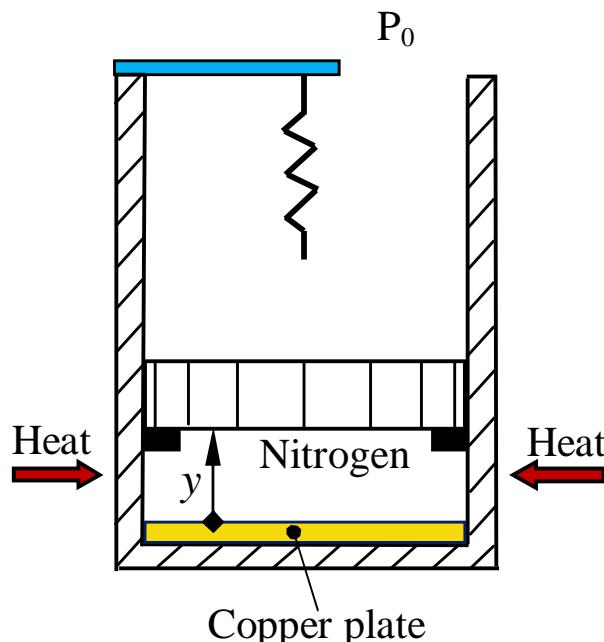

Figure 2: Piston-cylinder arrangement for problem 3
3. A frictionless piston-cylinder and linear-spring assembly containing nitrogen gas is shown in Figure 2. The mass of the nitrogen gas is $m_N = 0.12 \text{ kg}$. A copper plate uniformly covers the bottom of the cylinder, and this copper plate is always in **thermal equilibrium** with the nitrogen gas. The distance from the top surface of the copper plate to the bottom surface of the piston is denoted as y . At the initial state (State 1), the piston rests on the stops, with $y_1 = 0.5 \text{ m}$ and the pressure of the nitrogen gas being $P_1 = 110 \text{ kPa}$. Then heat is transferred to the nitrogen gas and copper from the outside. At the exact moment when the piston just begins to leave the stops, the state of the nitrogen gas is referred to as State 2. At the exact moment when the piston just begins to touch the spring, the state of the nitrogen gas is referred to as State 3. At State 3, $y_3 = 1 \text{ m}$. The nitrogen gas and copper continue to receive heat from the outside until the final state (State 4) is reached, when the pressure of the nitrogen gas becomes $P_4 = 220 \text{ kPa}$. From the initial to the final states, the total heat received by the nitrogen gas plus copper from the surroundings is $Q_4 = 320 \text{ kJ}$. The inner cross-sectional area of the cylinder is $A = 0.2 \text{ m}^2$. The piston mass is $m_P = 1200 \text{ kg}$. The local gravitational acceleration is $g = 9.81 \text{ m/s}^2$ and the local atmospheric pressure is $P_0 = 100 \text{ kPa}$. The spring-constant of the linear-spring is $k_S = 40 \text{ kN/m}$. The nitrogen gas can be treated as an **ideal gas**. The volume of the stops can be ignored.